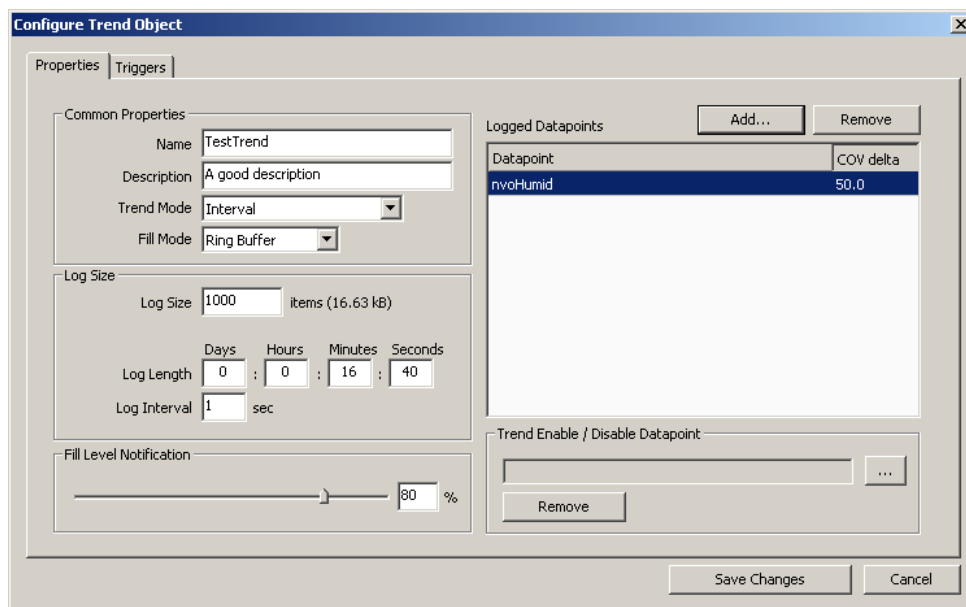

Figure 126: Basic Trend Object Configuration.
3. In the **Create New Trend Object** dialog (shown in Figure 126) enter a name and optionally a description for the trend log object.